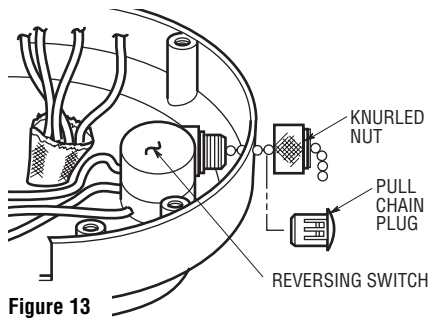

Figure 13
- 4. For Ceiling Fan Models CF3900, CF4500 and CF4800 Only. Remove two screws securing the reversing switch to the switch housing (Figure 13).